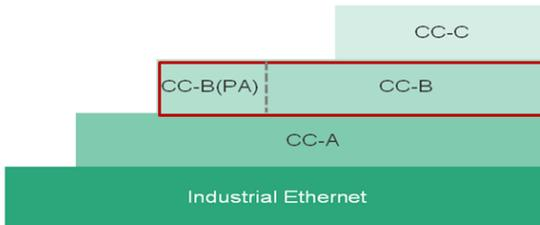

Fig. 1: Structure of the Conformance Classes (CC) of PROFINET
**PROFINET** is the open Industrial Ethernet-based standard developed and maintained by PROFIBUS & PROFINET International (PI). PROFINET is standardized in IEC 61158 and IEC 61784 and, as a universal communication technology, covers all requirements of automation technology. PROFINET is 100% Switched Ethernet according to IEEE 802.3 and is thus also open for application of all Ethernet technologies and parallel operation of multiple Ethernet protocols.
The **functional scope of PROFINET** can be scaled, according to multiple layered Conformance Classes (CC) each building on the previous, for adaptation to different use cases (figure 1). These combine minimum application-oriented properties: CC-A includes the basic functions and is, for example, used in building automation. CC-B expands the functional scope to include network diagnostics and topology information; CC-B(PA) adds functions relevant for process automation such as redundancy and optional "dynamic reconfiguration" (changes to the controller configuration while the operation is running). CC-C further expands the functions for implementation of IRT (Isochronous Real Time) communication and is thus the basis for clock-synchronized applications. A detailed description of the CCs is contained in the PI document "PROFINET IO Conformance Classes" [7.042 e].